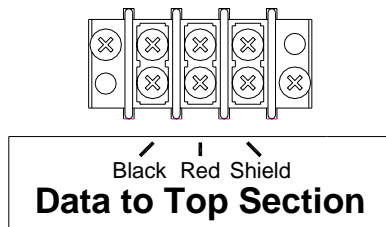

Figure 7 Data to Top Section Connections
3. Connect the cable to the terminal block labeled **Data to Top Section** according to figure 7.